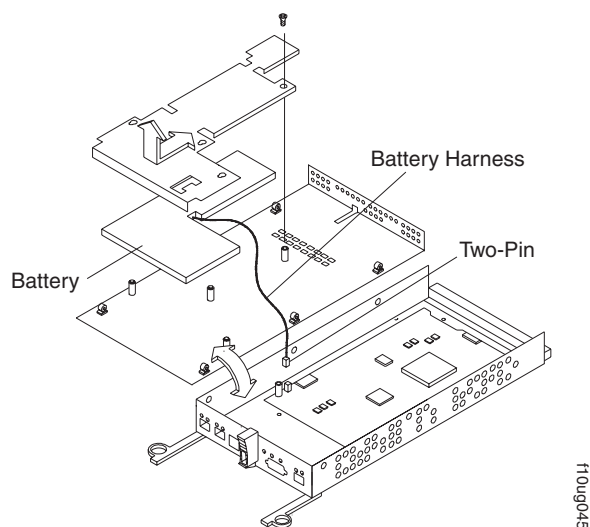

Figure 69. Removing the controller battery
8. Carefully flip over the RAID controller bottom panel. Disconnect the battery harness on the battery from the two-pin connector on the controller board, as shown in Figure 69 on page 87.
11. Carefully flip over the RAID controller bottom panel. Disconnect the battery harness on the battery from the two-pin connector on the controller board as shown in Figure 69 on page 87.